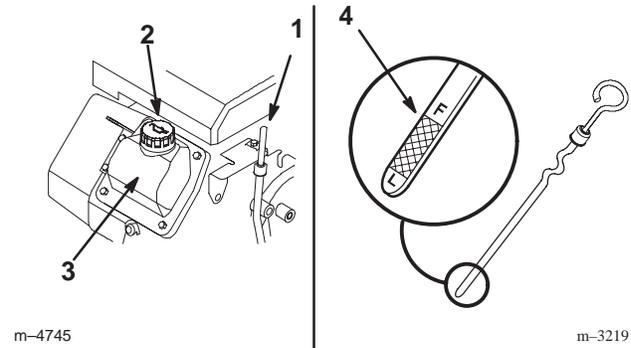

Figure 4
4. Clean around the oil dipstick (Fig. 4).
5. Pull out the dipstick and wipe the metal end clean (Fig. 4).
6. Slide the dipstick fully into the dipstick tube (Fig. 4).
8. If the oil level is low, clean around the oil filler cap and remove the cap (Fig. 4).